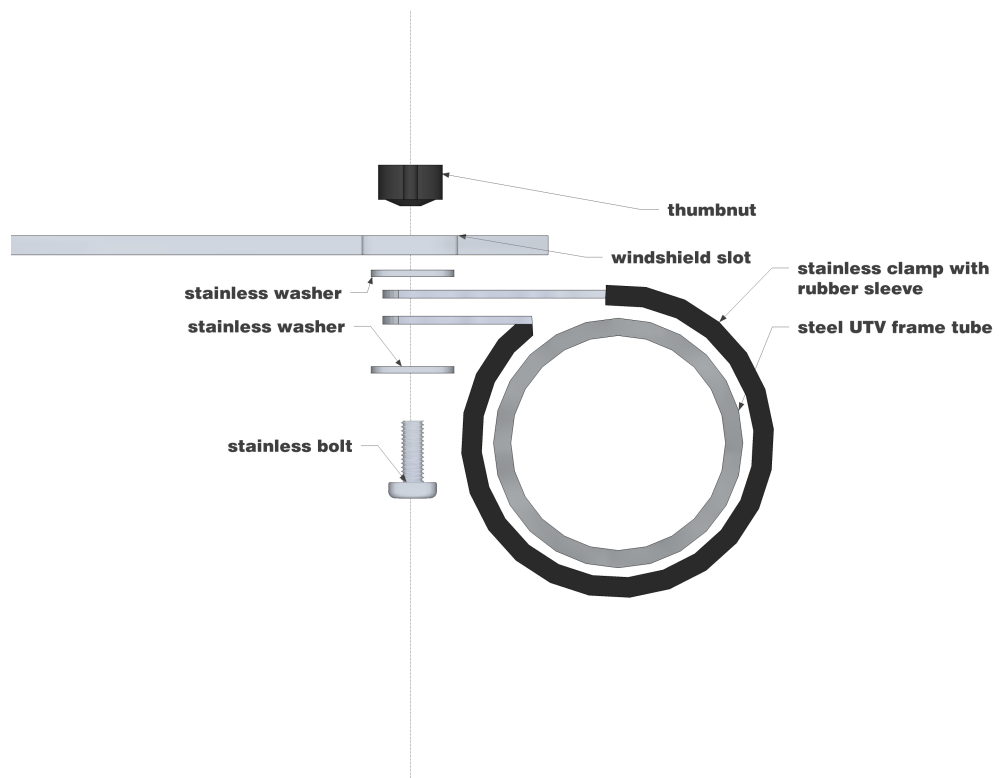

fig.2
5. Near the top slot in the windshield, take a 1-7/8" clamp and wrap it around the roll cage tube and then run a bolt with a washer through the two ends of the clamp from the inside out (see fig. 2). Then place another washer on the bolt after the clamp and run the bolt through the slot in the windshield. Screw on a thumb nut and tighten until just snug. Install all clamps in this manner; tighten all of them down after you are satisfied that the windshield is positioned correctly. You may need a Phillips screwdriver to hold the bolts while tightening the thumbnuts.